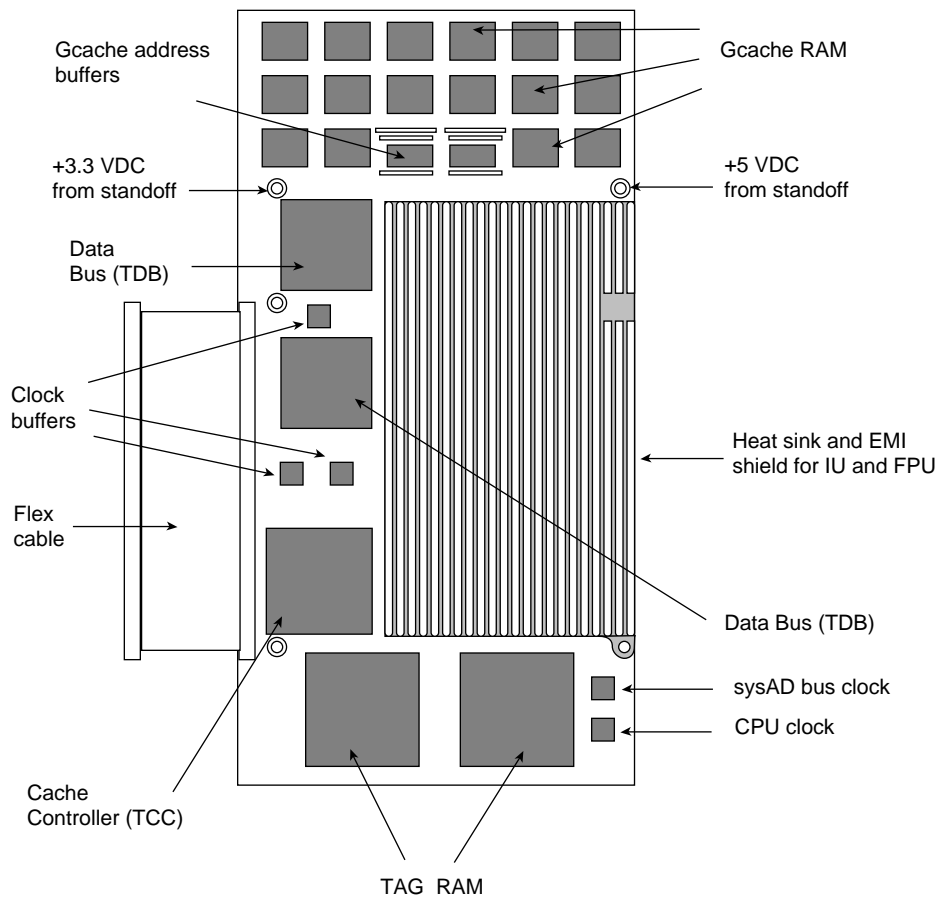

Figure 1-2 R8000 CPU Board Component Layout
- Figure 1-2** R8000 CPU Board Component Layout1-4
Figure 1-2 shows the component layout of the R8000 CPU board. The R8000 IU and FPU chips are concealed by a heat sink.
Figure 1-3 provides a logic diagram for both the R8000 CPU module and the IP26 base board. The flex cable noted in Figure 1-2 is the same as the “CPU Module to Base Board Connector” in Figure 1-3.